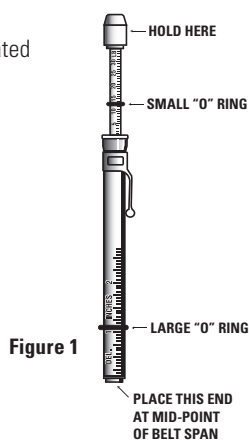

Figure 1
2. Set the small “O” ring at zero (See Fig. 1) and press down the Tensiometer at the center of the belt span.